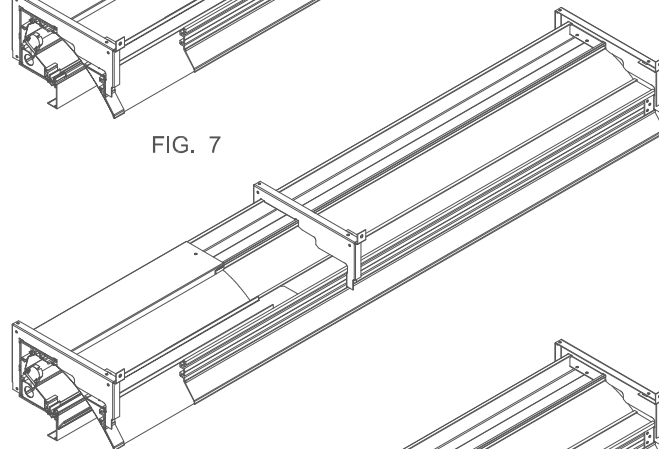

FIG. 8
12. RE-INSTALL LAMP BARRIER AND ROTATE INTO IT UPPER MOST POSITION UNTIL IT SNAPS INTO SPRINGS. SEE FIG.8 AND 9.